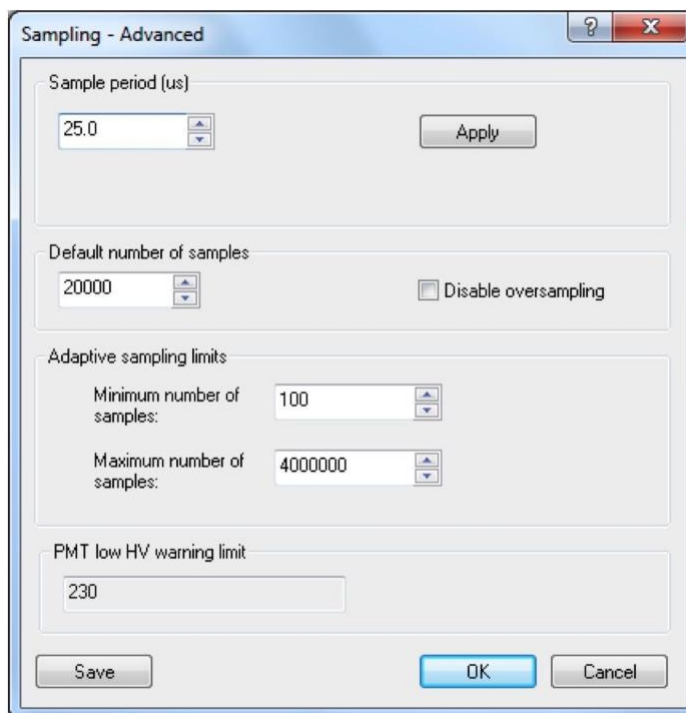

Figure 8. The Sampling-Advanced dialog box
- Clicking on the **Adv...** button calls up the **Sampling - Advanced** dialog box (Figure 8).